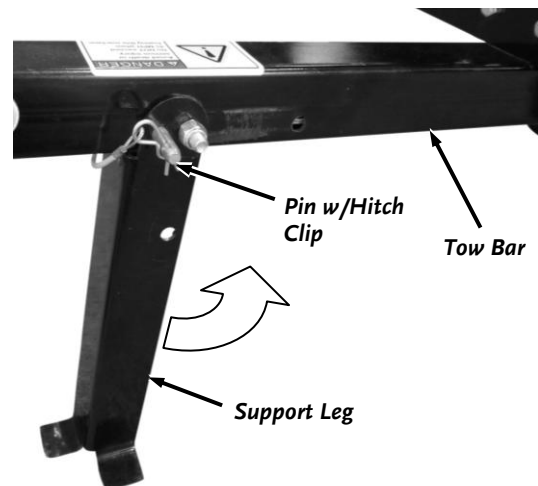

Figure 22
2. Pull the Hitch Clip from the Pin and pull the Pin from the Support Leg and Tow Bar (**Figure 22**).